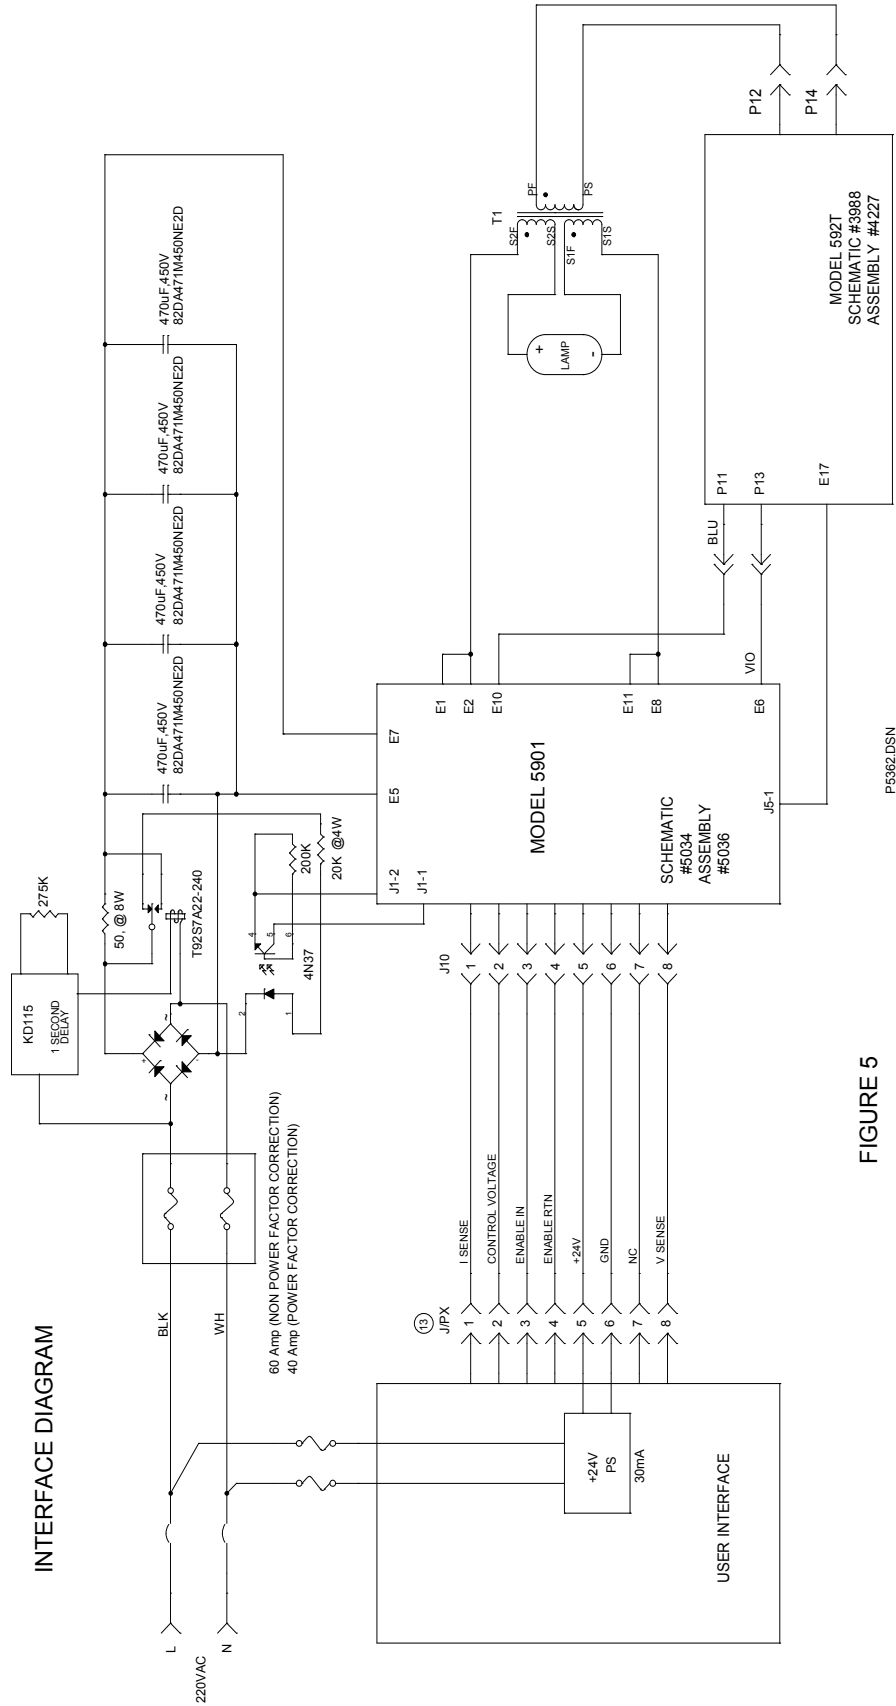

FIGURE 5
Referring to the block diagram in Figure 5, 230 Vac is filtered and rectified to achieve an open circuit output of approximately 325 Vdc when the lamp is not conducting. With an appropriate lamp igniter module (such as the Model 592T and trigger transformer) and with the 5901 enabled, the lamp is struck and begins to pass current. Lamp current is sensed by the power module and controlled based upon the opto-isolated current demand. The Current Demand signal is proportional, with a 0.5-4.5 V control voltage producing 5-45 A of lamp current. The Enable is opto-isolated and requires 5 V to enable the unit.
The Model 5901 requires dc input of between 280 Vdc and 410 Vdc. Figure 5 shows a typical rectification circuit to produce this voltage, but power factor correction circuits can also be employed. As shown in Figure 5, the dc power is applied at E7 (+) and E5 (-). E7 and E5 are 0.25" wide quick-disconnect terminals. The screw on the side of the unit and identified with the Protective Earth Ground symbol must also be connected to the Protective Earth conductor of the system power cord.
0.25" wide quick-disconnect terminals are also used to connect the Model 5901 to an appropriate Igniter circuit (E10, E6 shown connected to AMI Model 592T in Figure 5) and to the lamp load and/or trigger transformer (E1, E2 and E8, E11 shown connected to differential trigger transformer, T1, in Figure 5).
One additional connection (J5) is required from the Model 5901 if it is to be used with an AMI Igniter Module (Model 592T or 592A). J5 is a 2-pin locking header with 0.1" pin spacing and must be connected to the Igniter module to change the state of a relay when the lamp load breaks down and goes into conduction. As shown in Figure 5, J5-1 must be connected to E17 on the Model 592T Igniter for proper operation. Contact the factory for use of the Model 5901 with other Igniter modules.
One additional connection must be made by the user to inhibit the Model 5901 until the input power circuit has been charged. J1 is a locking 2-pin header with 0.1" pin spacing and must be connected to an external circuit as is shown in Figure 5.
- 1) Ensure that the Enable (J10-3) is off, the Current Demand (J10-2) is equal to 0.5 V, and an appropriate dc power input circuit (as shown in Figure 5) is connected to the 5901 but is un-energized.